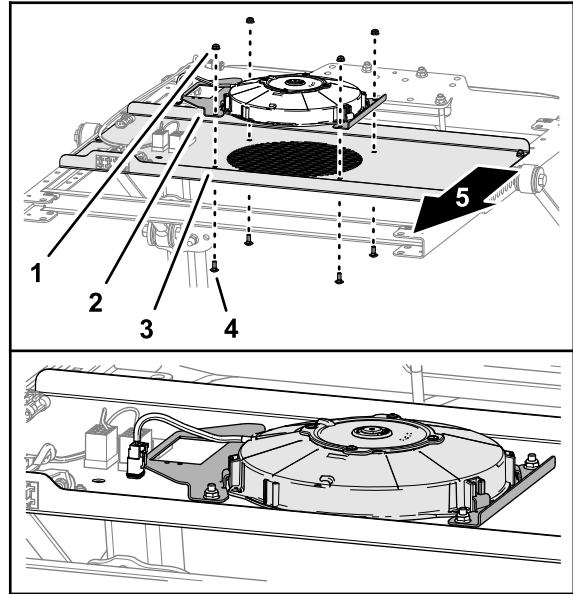

Figure 4
4. Align the holes in the fan mount brackets to the hole in the switch panel as shown in Figure 4.
5. Assemble the cooling fan and brackets to the switch panel (Figure 4) with 4 carriage bolts (1/4 x 5/8 inch) and 4 flange locknuts (1/4 inch).